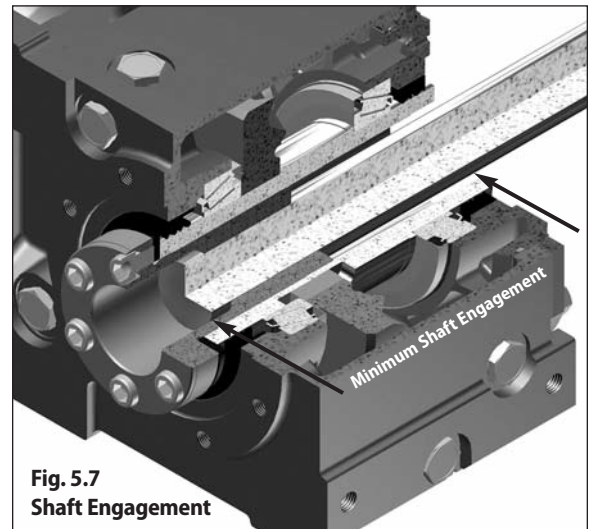
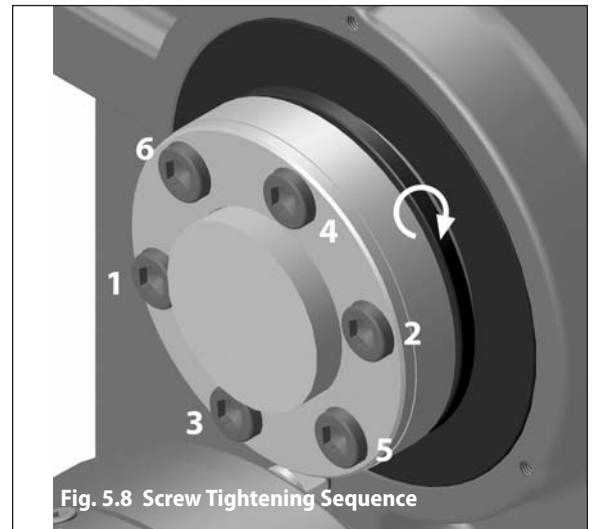

Fig. 5.7
Fig. 5.8 Screw Tightening Sequence
Step 8 – Position unit with the bushing flange located on the outboard side of the unit. Align the bushing with the driven shaft. Slide the unit onto the driven shaft as close to the driven shaft support bearing as possible. Ideally, the driven shaft should extend beyond the bushing flange face (see Fig. 5.8). Refer to Fig. 5.7 and Table 5.14 below for minimum shaft to bushing engagement.
Step 9 – With a torque wrench, gradually tighten the capscrews in 20% increments to engage the bushing system. Use the appropriate tightening pattern ("star-pattern" see Fig. 5.8) to assure complete bushing engagement. Tighten each capscrew to the torque values shown in Table 5.15: